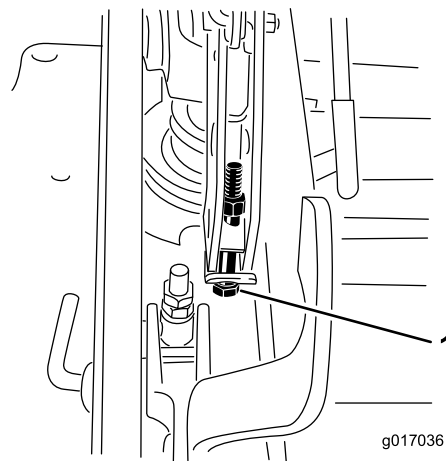

Figure 78
- If the deck is too low, tighten the single point adjustment bolt by rotating it clockwise. If the deck is too high, loosen the single point adjustment bolt by rotating it counterclockwise (Figure 78).